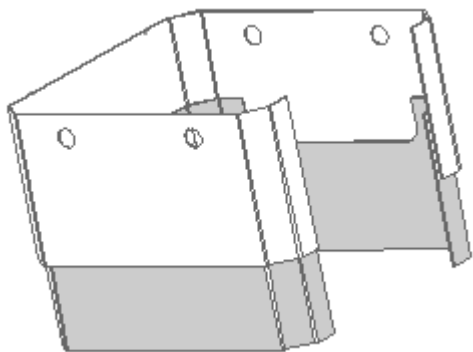

Figure 30: Leg Covers
2. Place the smaller 'sleeve', with cutouts facing up, inside the larger sleeve with the openings of both stacked and facing the back (*Figure 30*).
1. Remove the leg covers by sliding the top, outer sleeve of the leg covers off the extruded dimples of the cast aluminum base (see *Figure 30*).
5. Mount the Toe Kick Panel on both sides of the unit into the extruded dimples using the (4) T-20 Torx drill point screws provided.